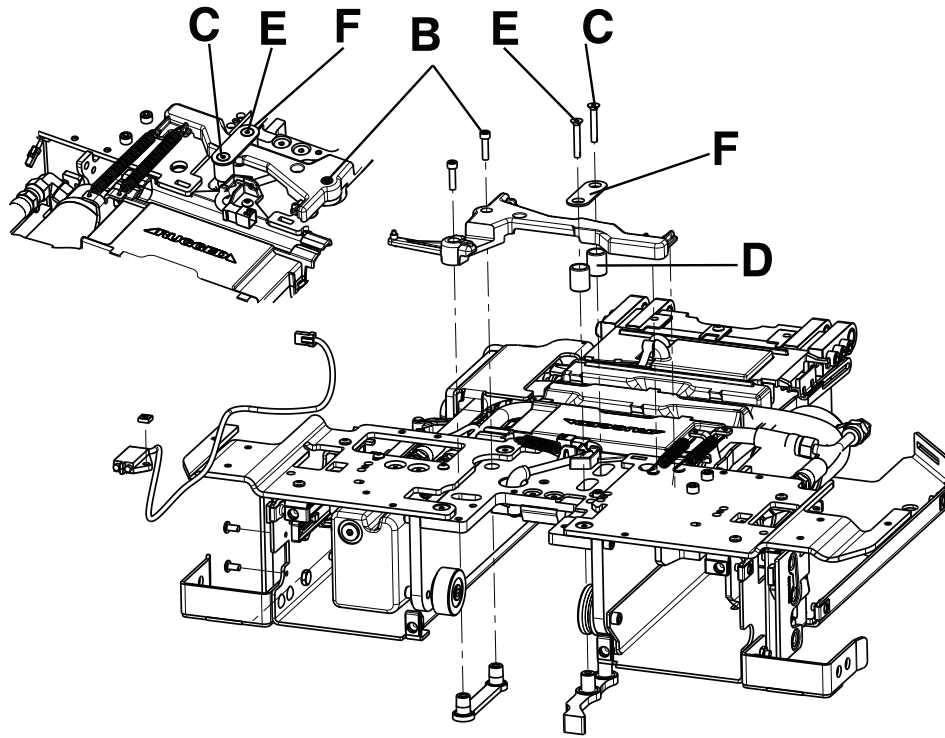

Figure 31 – TPS assembly
4. Using a 5/32" hex wrench, loosen (do not remove) the socket head cap screw (B) that secures the trolley mechanism arm (Figure 31).
5. Using a 1/8" hex wrench, remove the flat head cap screw (C) that secures the link to the trolley mechanism arm and remove the trolley mechanism pivot pillar (D) (Figure 31). Save the screw.
6. Using a 1/8" hex wrench, loosen (do not remove) the flat head cap screw (E) that secures the front link (F) to the trolley mechanism arm. Swing the trolley mechanism arm out of the way (Figure 31).